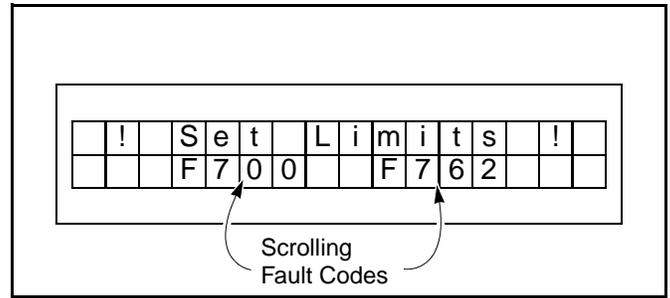

Figure 81
2. Apply power to the control system. During the system initialization, the display will indicate that the door open and close limits must be set by displaying the associated fault codes ("F700" and "F762" will scroll across the display). (See Figure 81.)